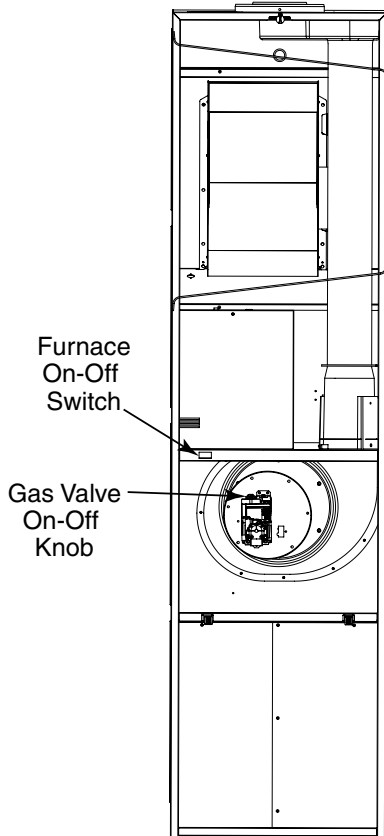

Figure 2. M1 Gas Furnace Components
7. Set the gas valve ON/OFF knob / switch to the OFF position. See Figure 2 for gas valve type and knob / switch location.
The furnace components shown in Figure 2 will help identify and locate various parts of the furnace. The component you need to familiarize yourself with is the gas valve. You will use this to turn the furnace on and off. There are no user serviceable parts. All repairs must be done by a licensed HVAC technician.